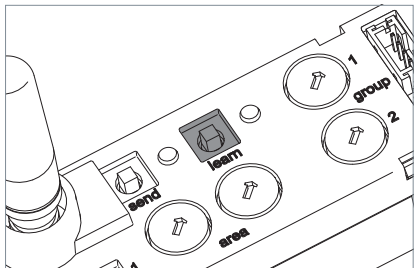

Fig. 16: "learn" key.
- Press the "learn" key and keep it depressed for two seconds, see Fig. 16. The "learn" LED is flashing.
- Press the "learn" key and keep it depressed for five to ten seconds until the "learn" LED starts flashing quickly, see Fig. 16.